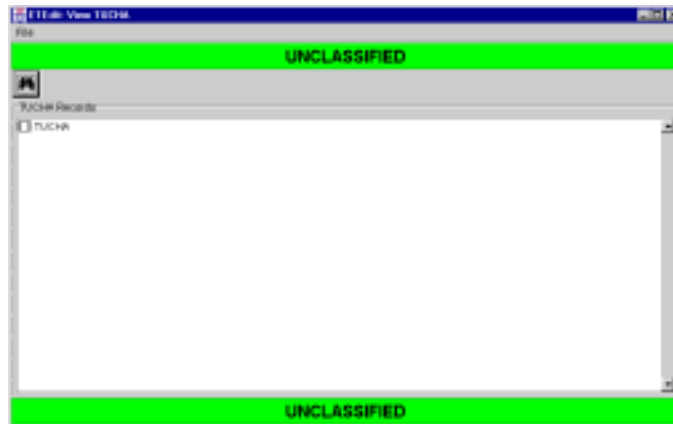

Figure 5.75 ETEdit: View TUCHA Window
4. Click the Add RLN from TUCHA command. The ETEdit: View TUCHA window opens (Figure 5.75).